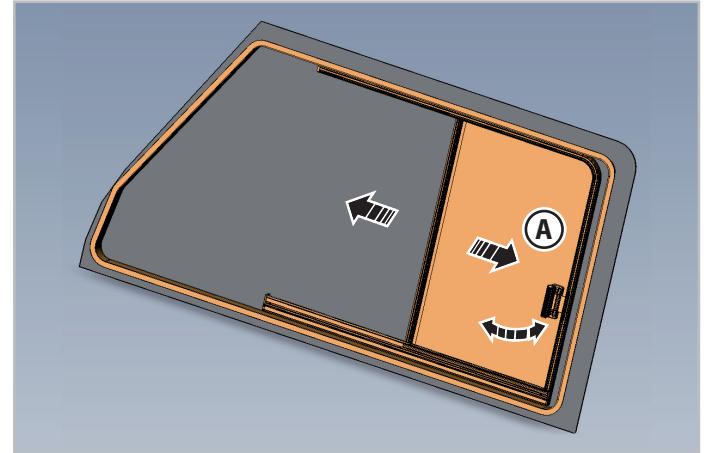

Fig.3.2 - Integrated motorhome sliding window, passenger side
1. Press down on the hook on the rear handle (A - Fig.3.2), detaching it from the locking latch, in order to unlock the window.
2. Pull on the handle (A - Fig.3.2), bringing the window forwards to the desired position.
1. Pull the handle (A - Fig.3.2), bringing the window back to the closed position, until the handle is fully engaged with the locking latch.